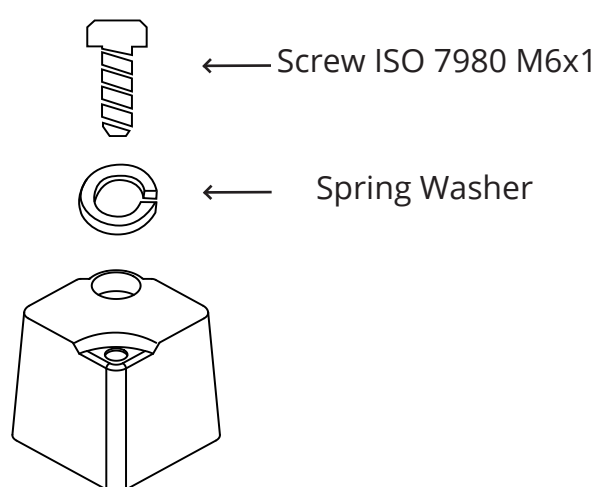

Figure 4 - Screwed Dynallogger
- Screwed: Dynaloggers have a hole precisely for this type of attachment as shown in Figure 4. Each device goes with a screw and a spring washer.